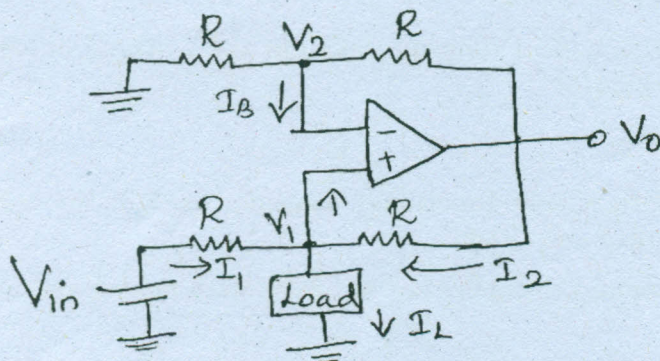

Figure 3
- (b) (i) For a V-I convertor shown in figure 3, $V_{in} = 5V$, $R = 10\text{ K}\Omega$, $V_1 = 1\text{ V}$, find the load current and output voltage V_0 . Assume the op-amp is initially nulled. (6)